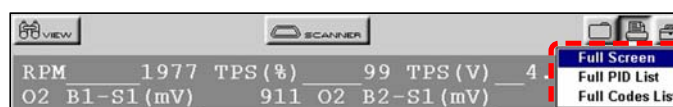

Figure 5-45 Sample Print menu
2. Select **Print >** print option (Figure 5-45).